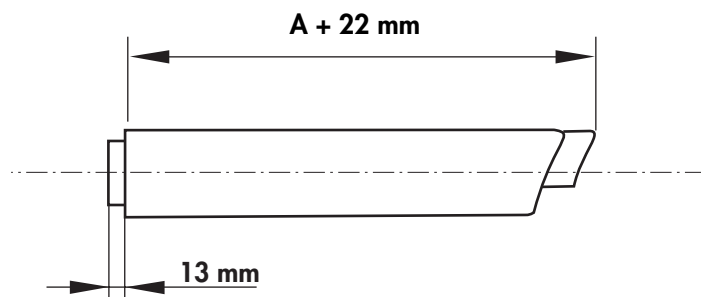

Fig. 3.11
- Cut the air duct and flue duct to the lengths shown in (fig. 3.11).